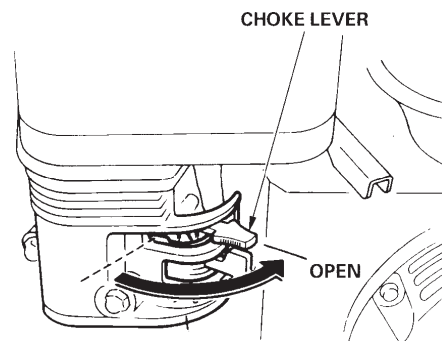

Figure 11. Engine Choke Lever (Open)
4. Place the **choke lever** (Figure 11) in the "**OPEN**" position if starting a **warm engine** or the **temperature is warm**.
7. If the engine has started, slowly return the choke lever (Figure 11) to the **OPEN** position. If the engine has not started repeat steps 1 through 6.